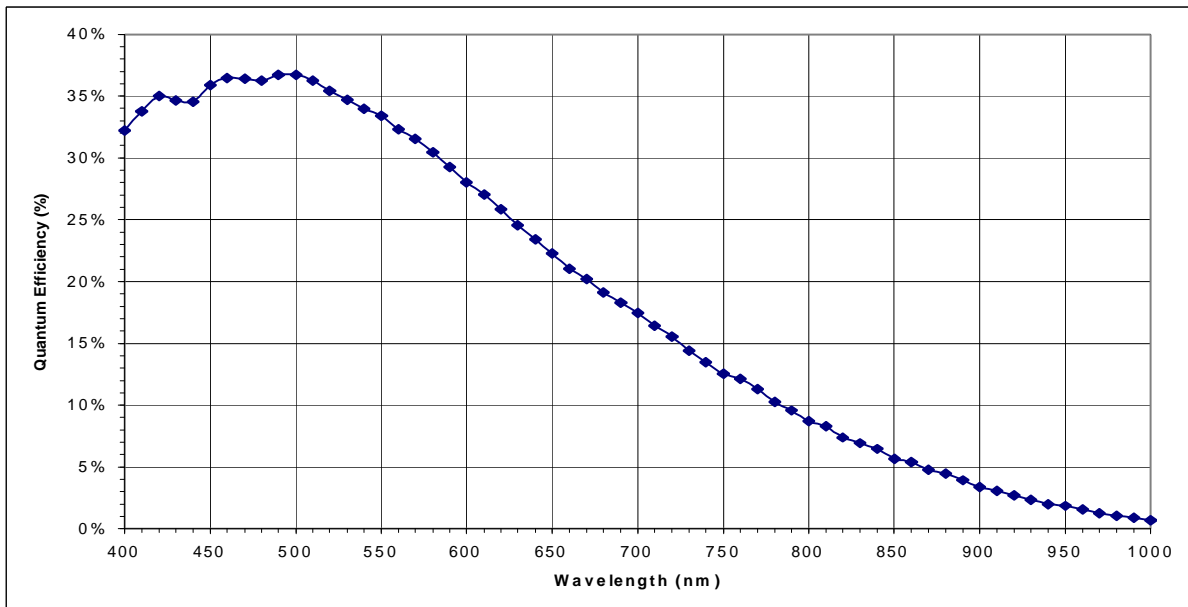

Figure 13 Nominal KAI 0372M Spectral Response
2. Refer to typical values from Figure 13 – Nominal KAI-0372M Spectral Response.